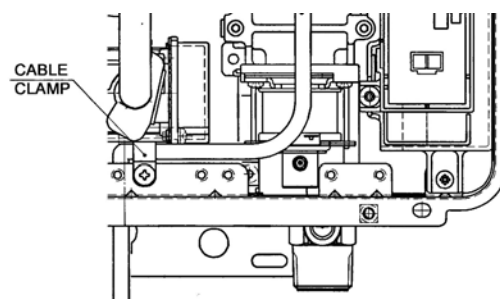

Fig. 4
4. Securely fasten the EZ Connect cable to the bottom of each Infinity water heater with the cable clamps and screws supplied. (Fig. 4)